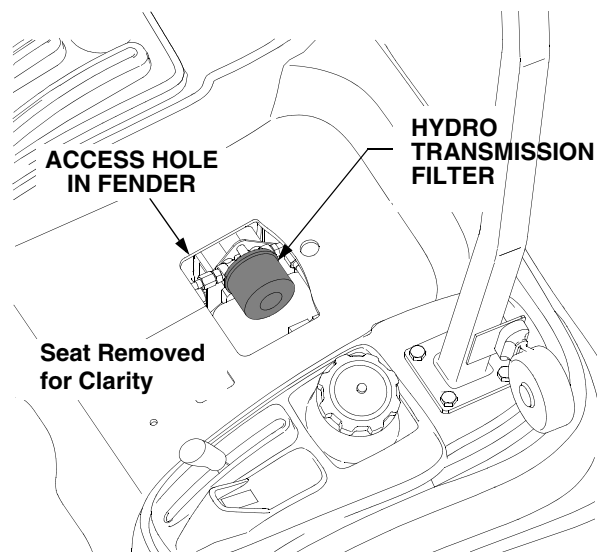

Figure 44
- Through the access hole in the rear fender, clean the area around the hydro transmission oil filter to prevent debris from entering the hydraulic system. Refer to Figure 44.
- Stuff shop rags underneath the hydro transmission filter to absorb any lost oil when the filter is removed. Refer to Figure 44.